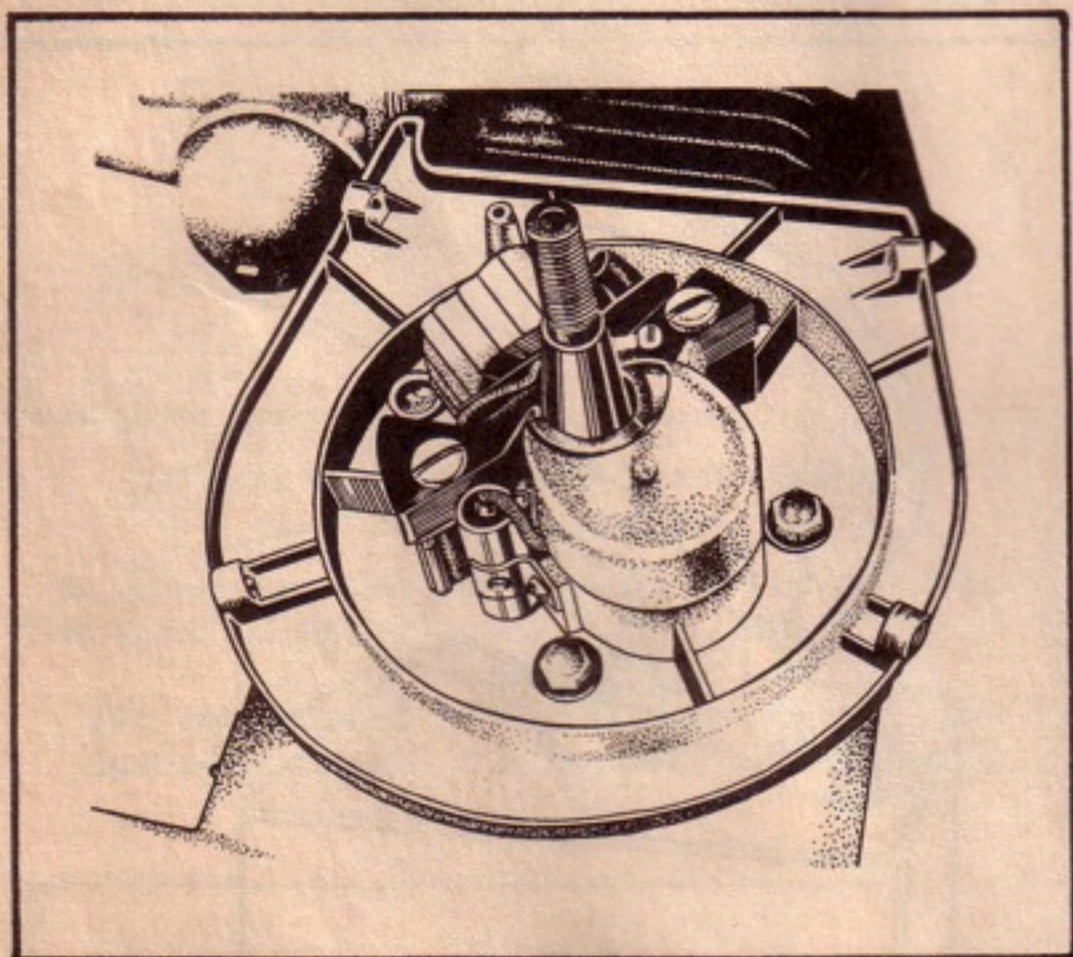

Figure B-9 Phelon Magneto Assembly
which is mounted on a soft iron core located within the flywheel flange. A permanently-charged magnet is mounted within, and rotates with, the flywheel. (See figure B-9) When the permanent magnet passes over the coil, and the breaker points separate, a high-voltage current is induced in the secondary winding of the coil. This current produces a spark across the spark plug electrodes for igniting the charge in the combustion chamber. A pivot-type breaker plate assembly is employed, and is specially protected against dust by a plastic or metal cover.
(1) Breaker cam should be replaced if rough or showing signs of wear. Check for looseness that may allow cam to rub against dust cover causing Breaker Points to foul from metal dust. (See Fig. B-9)